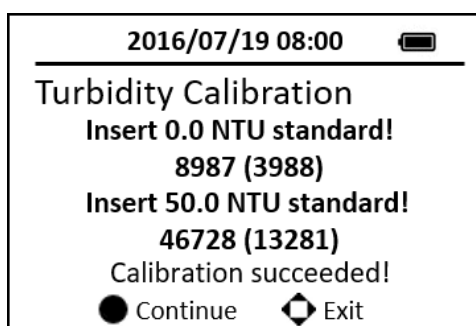

Figure 13. Turbidity Calibration-2
4. Press the **CAL** on the main page, then choose the Turbidity calibration and press the **OK** button to launch the Turbidity calibration page. (Figure 13)